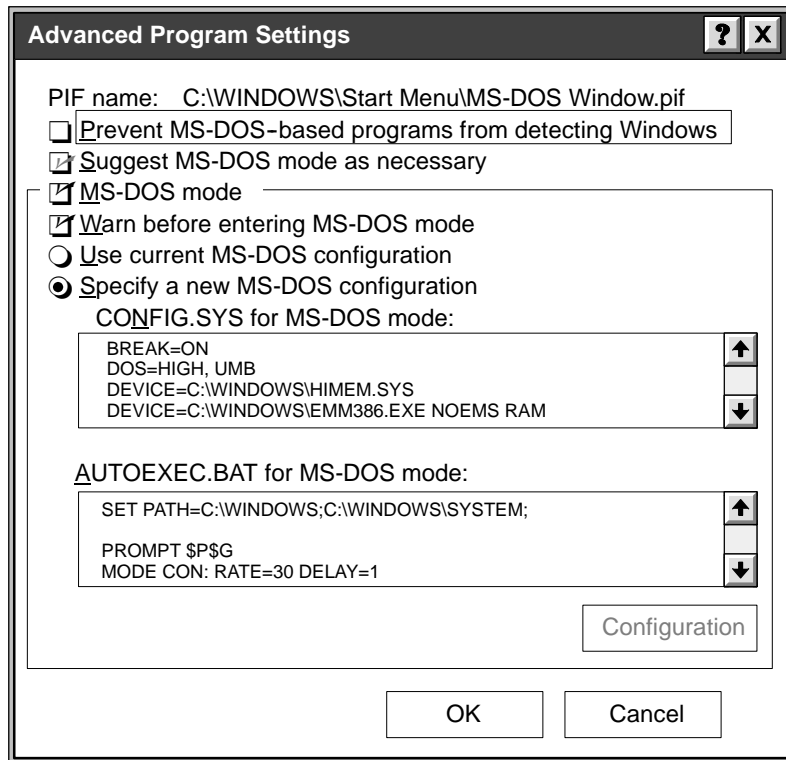

Figure D-13 Advanced Program Settings Dialog Box
2. Select the **Program** tab, and then select the **Advanced** button to access the Advanced Program Settings dialog box (Figure D-13).
The **config.sys** file must support all programs and devices to be used in this DOS environment. A sample **config.sys** file suitable for installing APT is listed below. See Figure D-13.
The **autoexec.bat** file that you need at this point is shown below. The `prompt` command sets the prompt string for all DOS sessions. The `mode` command speeds up the key repeat rate, which is a useful setting for APT. The virtual DOS environment example included **doskey**, which is optional and is not required to run APT. Due to the addition of **smartdrv.exe** and **mouse.exe**, some computer systems may not have room to include **doskey**, so it is omitted from the example. A sample **autoexec.bat** file suitable for installing APT is listed below. See Figure D-13.